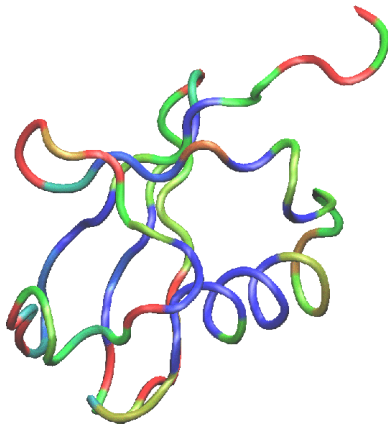

Figure 9: Ubiquitin colored by the average RMSD per residue. Red denotes more mobile residues, and blue denotes residues which moved less during equilibration.
- * **9** Choose the Graphics → Colors... menu item. Choose the Color Scale tab. In the Method pull-down menu, choose `BGR`. Your figure should now look similar to Fig. 9.